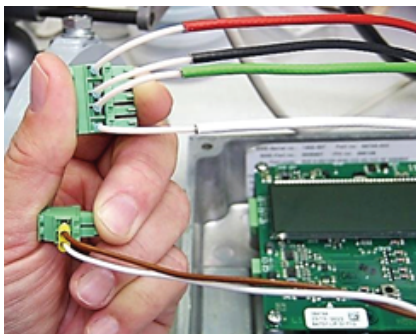

Figure 8: M5000 electrode and coil terminal blocks
10. Using the electrode and coil terminal blocks removed from the junction box circuit boards, connect the wires per Figure 8, making sure all connections are secure.